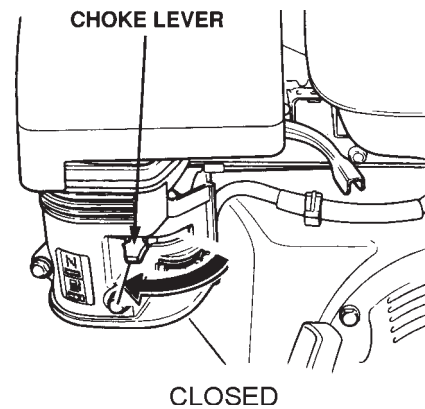

Figure 10. Engine Choke Lever (Closed)
4. Place the **choke lever** (Figure 10) in the "CLOSED" position if starting a **warm** engine or the **temperature is warm**.